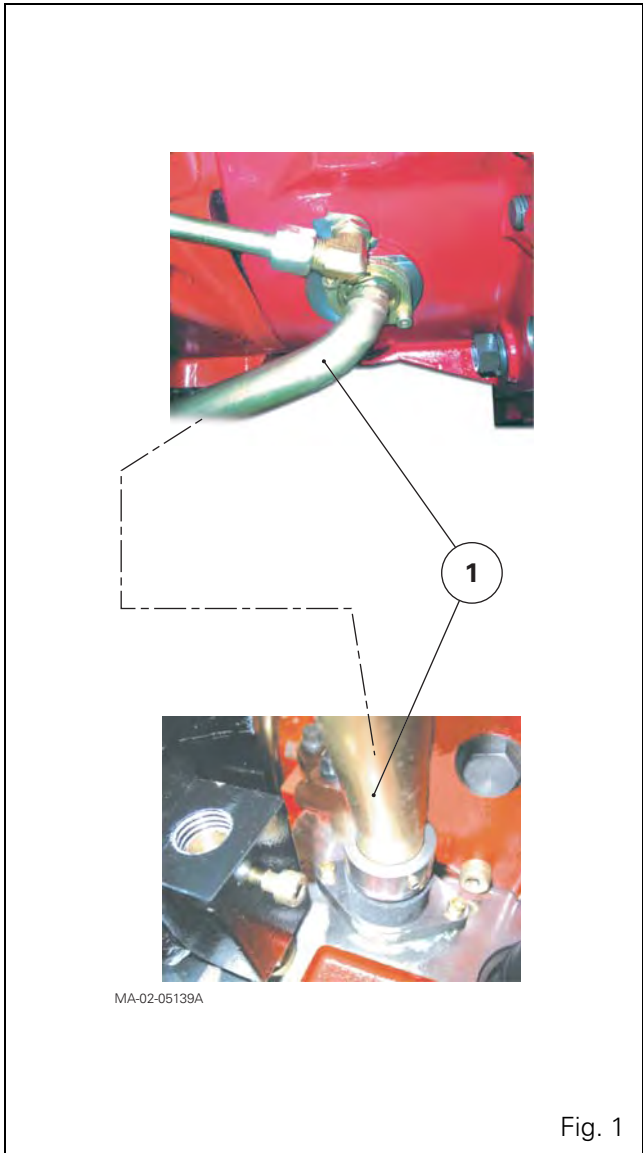

Fig. 1
- the PowerShuttle lubricating pipe (1) located between the intermediate housing and gearbox (Fig. 1). Plug the ports.